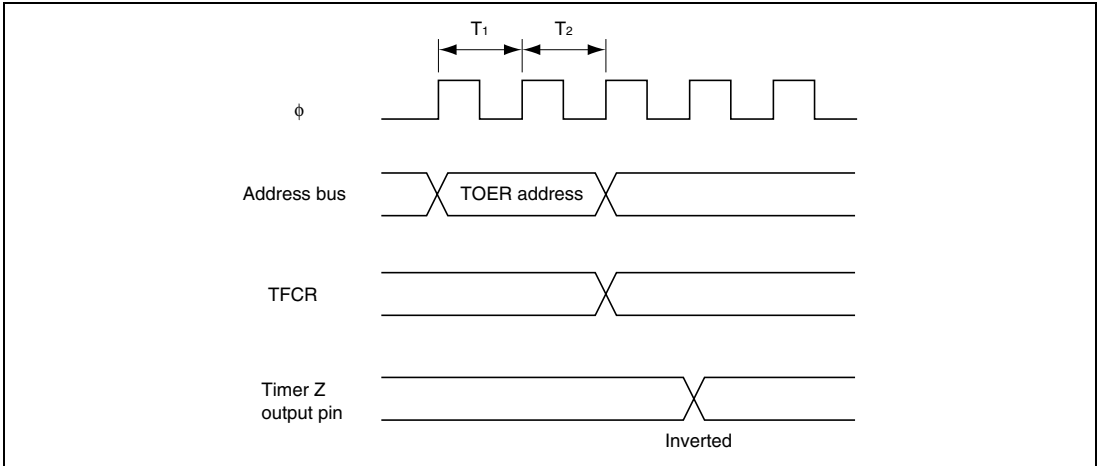

Figure 13.46 Example of Output Inverse Timing of Timer Z by Writing to TFCR
- Output Inverse Timing by TFCR: The output level can be inverted by inverting the OLS1 and OLS0 bits in TFCR in reset synchronous PWM mode or complementary PWM mode. Figure 13.46 shows the timing.